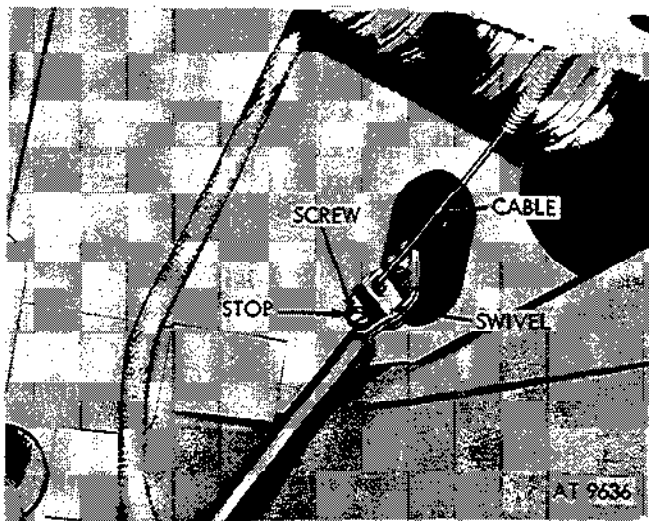

Figure 2-106. Remove throttle control cable from swivel.
(1) Loosen setscrew on stop and remove throttle control cable from swivel (fig. 2-106).
c. Adjustment. Refer to figures 2-106 and 2-107 and proceed as follows:
(1) Loosen setscrew at cable stop.
(2) Set hand throttle control knob 1 / 16 inch out from dash panel.
(3) Adjust throttle control cable so throttle control plate at carburetor is in fully closed position.
(4) Tighten setscrew.